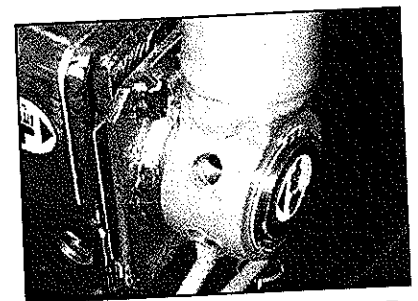

fig. 7a
- Supporting the ram, remove the check pin and the locking pin from their positions (fig. 7); when the ram is in the vertical position, a stop prevents (fig. 7a) it permits from overturning.